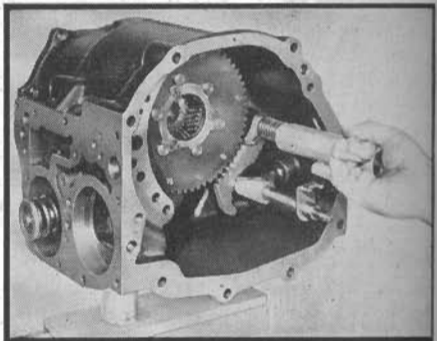

Fig. 67 Installing parking pawl spring. 1953-59
15. Wind up pawl spring, using tool J-3383, so that spring catches on inside of case, Fig. 67.